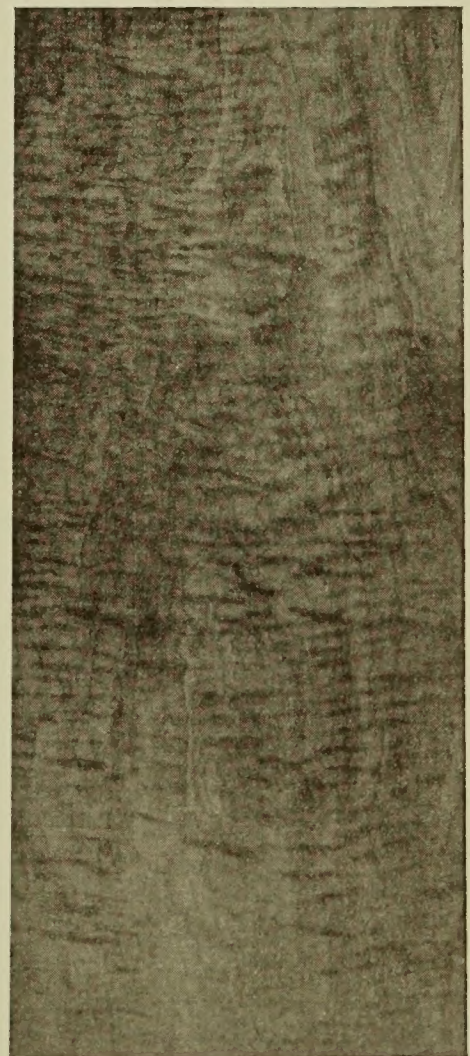

Fig. 6
### B. Rotary (Fig. 6).
- (k) Rotary—semi-figured (Fig. 6).